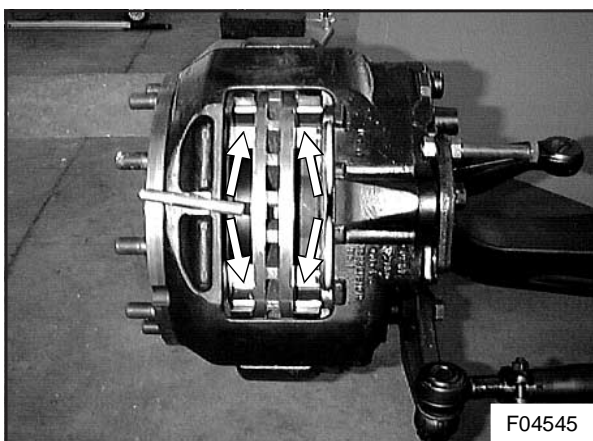

Figure 21 : Cleaning the brake carrier
9. Clean the pad sliding faces of the brake carrier with a wire brush or a flat scraper (see Figure 21).